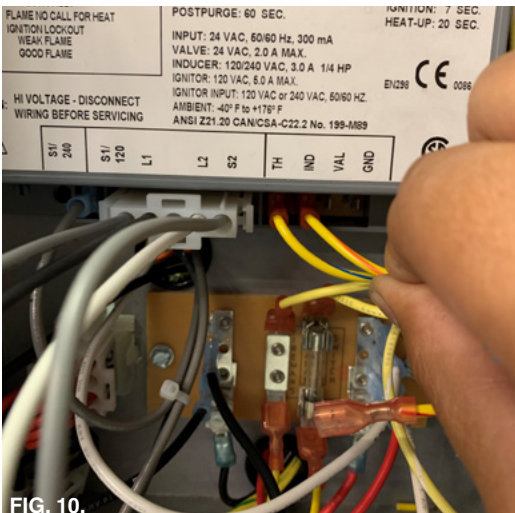

FIG. 10.
9. Connect the Molex connector as shown in Fig. 10. Be sure the two end flat connections mate properly.
9. Connect the Orange/Yellow wire to IND ¼" tab at ICM as shown in Fig. 10.